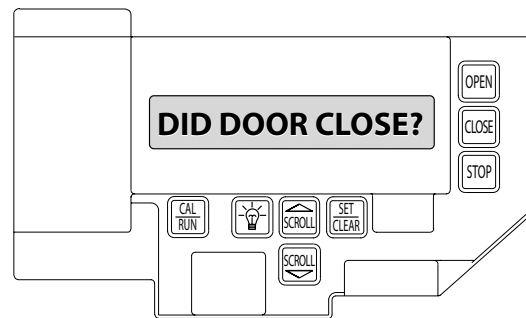

FIG. 3
3. Display will read HIT CLOSE KEY TO TEST. Briefly press the CLOSE key. FIG. 2 (Pressing the Scroll key at this point will exit this function). * The display will read DID DOOR CLOSE >YES< NO FIG. 3.